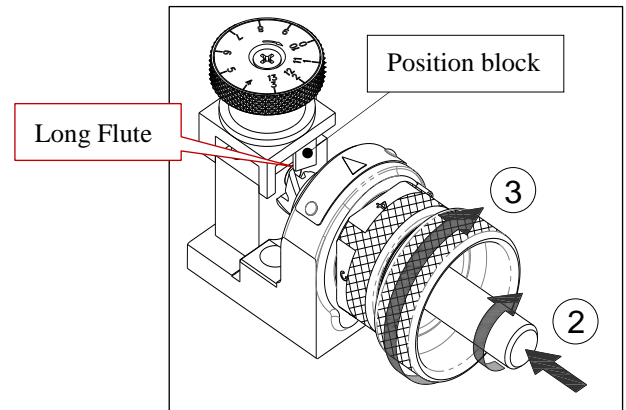

Fig. 12-3
- ② Push the End mill to the end and turn it clockwise until the long flute of the End mill stops by the Positioning block. (Fig. 12-3)
- ③ Turn the collet holder clockwise and tighten lightly the Chuck set. (Fig. 12-3)